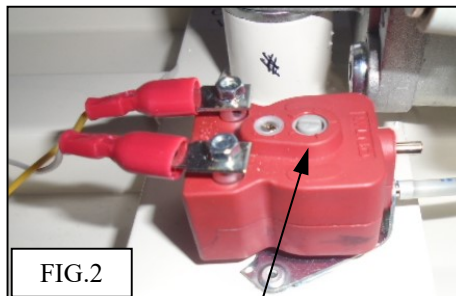

FIG.2
- 5:1.1 Detection of sensitive edge is too LIGHT requires adjustment as shown in Fig.2.
2. Mark up position of guide spindle as shown before removal (See Fig.2).